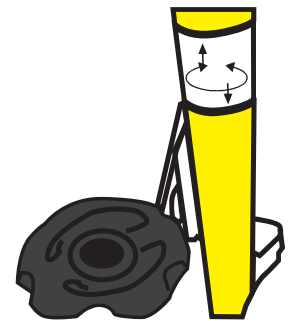

FIGURE 2
5.2 To adjust the cutting depth, rotate the set-screw handle until the desired depth is achieved. **FIGURE 2.**